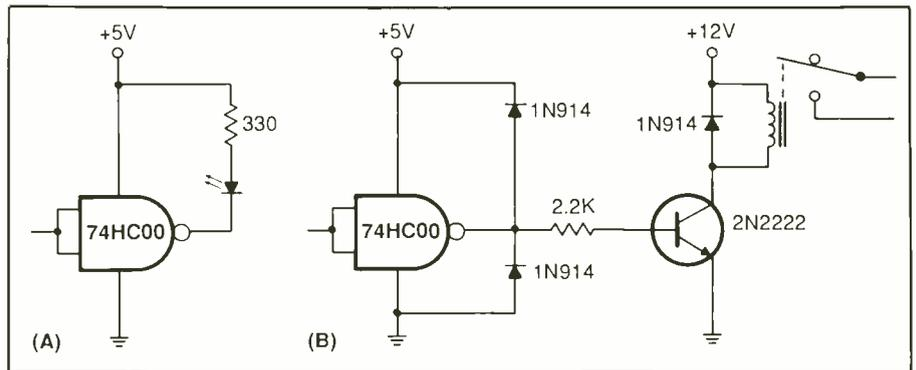

Fig. 6. An HC output can be used to directly drive a LED (A), while a transistor (B) provides increased drive current to operate a relay.
The absolute maximum output drive rating for HC devices is 25 milliamperes (35 milliamperes for bus-driver outputs). At currents above 4 milliamperes, the outputs will no longer swing rail to rail, but they can still be used to drive LEDs or other higher-current loads. Figure 6(A) shows an HC output powering a LED at 10 milliamperes.
A transistor can be used to boost the output drive even further. Figure 6(B) shows an HC output controlling a transistor, which in turn controls a relay. Diodes at the output of the NAND gate protect the gate from